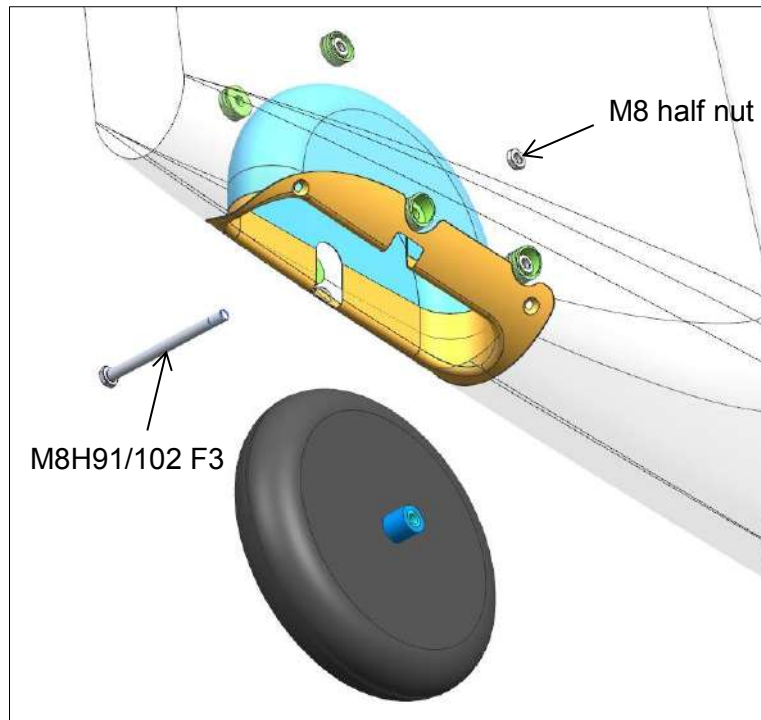

Figure 32-31: Removing the 200x50 tail wheel
2. Remove the M8 half nut on the right (Figure 32-31).
3. Remove the bolt M8H91/102 on the left and remove the wheel downwards (Figure 32-31).